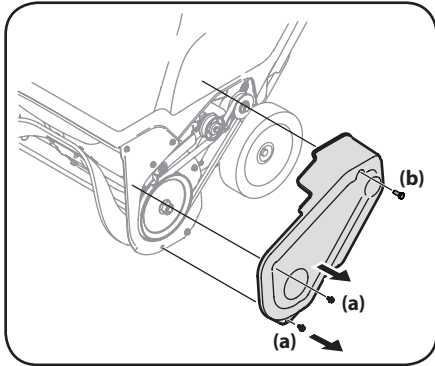

Figure 4-4
- Remove the belt cover by removing the two hex washer screws (a) and one hex lock screw (b) that secure it to the frame. See Figure 4-4.